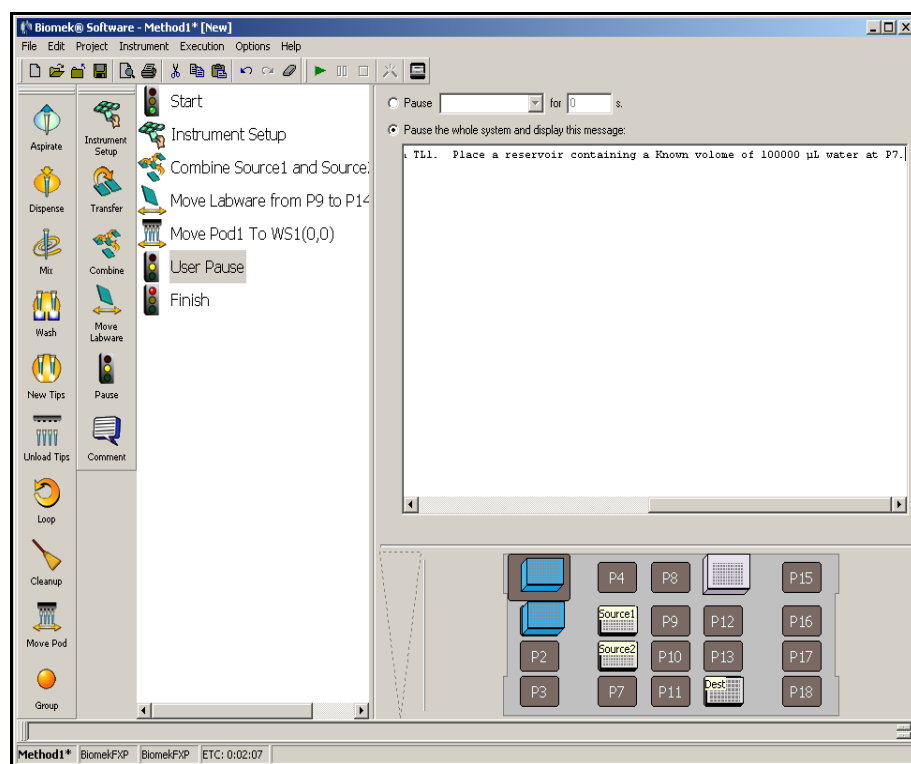

Figure 2-11. Pause configuration with message inserted
3. Type in the message: **Remove the two used tip boxes at TL1 and P1 and place a new AP96 20 μ L on TL1. Place a reservoir containing a Known volume of 100000 μ L water at P7.** The main editor should now look like Figure 2-11.